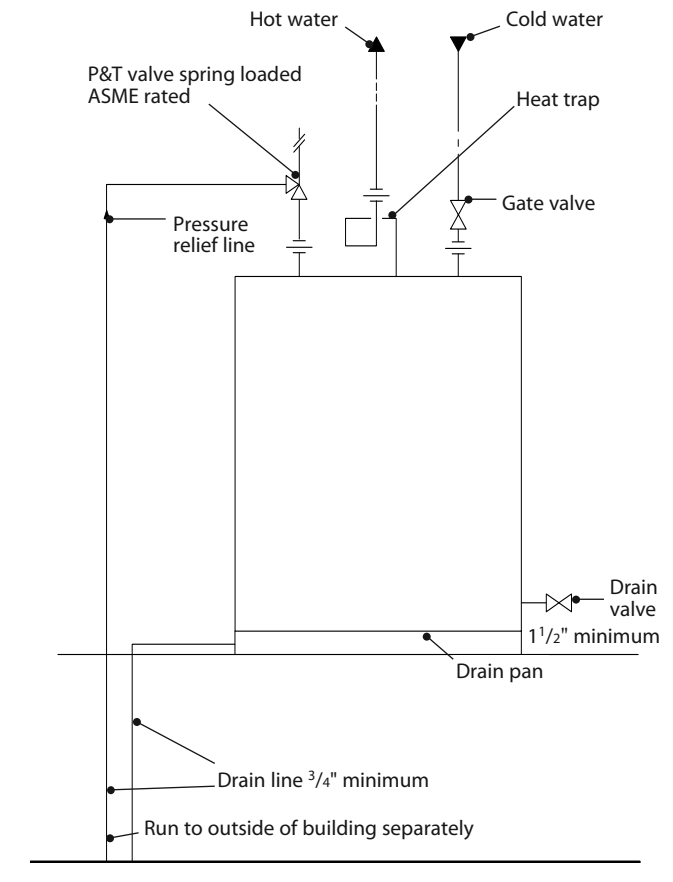

Figure 13-6
When water heaters or hot water storage tanks are located above the ground floor level of a building, you have to provide a drain pan. This helps prevent injury to the building occupants or damage to the building. See Figure 13-6. Here are some qualities of a good pan:
- In a multiple vertical installation, make sure the drain from pans runs downward a minimum of 6 inches before connecting into the main riser. See Figure 13-6.
Under a floor slab on grade, increase horizontal pipes that receive drain pan waste by one size. Some codes allow water heater relief lines and safe pan lines to use a common vertical riser. Use only approved materials and always check local code requirements. See Figure 13-6. Like the relief lines, drain pan lines must terminate over a suitable waste receptor or extend outside the building in a visible location 6 inches above grade.
- Heat traps are required on hot water lines leading away from water heaters. See Figure 13-6. The heat trap prevents hot water from rising into the hot water line, saving approximately 2 percent of the cost to generate hot water.